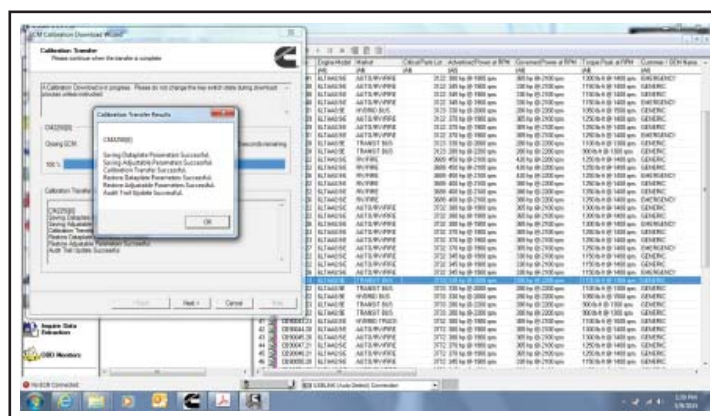

Figure 26 - Calibration Transfert Result
1.26. You will get a Calibration transfer result then click ok. See Figure 26.